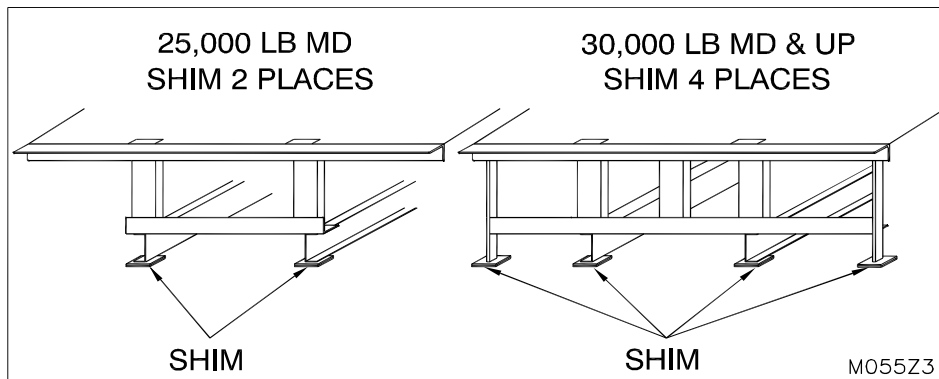

Figure 6: Shim Rear Frame
13. ___ Place shims of minimum length and width of 3" by 4" and a minimum thickness of 14 gauge under rear frame until top rear of dock leveler is flush with rear curb angle. (See "Figure 6: Shim Rear Frame" on page 7 for shim placement) Tack weld into position.
20. ___ Weld the rear shim stacks to the frame of the dock leveler. (See “Figure 6: Shim Rear Frame” on page 7)